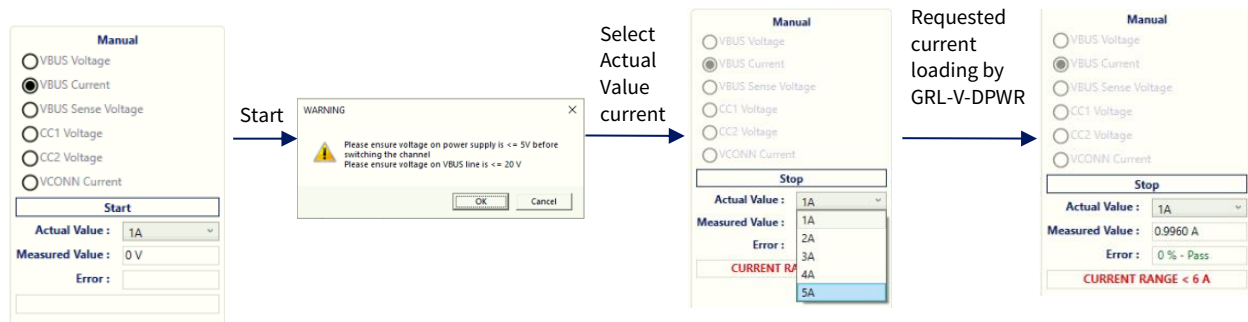

Figure 17.VBUS Current Measurement Channel Verification (Sink Mode)
2. See Figure 17 for the following procedure: